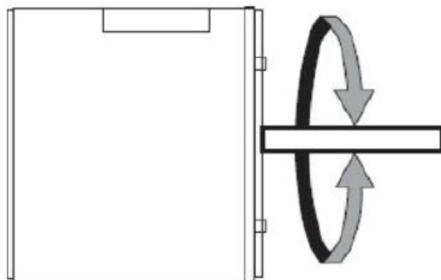

Figure 2
1. Disconnect or remove AC power to the equipment serviced and allow four (4) minutes for the capacitors to discharge any residual voltage.
2. Make sure that the motor shaft spins freely by hand without effort in both directions [Figure 2].